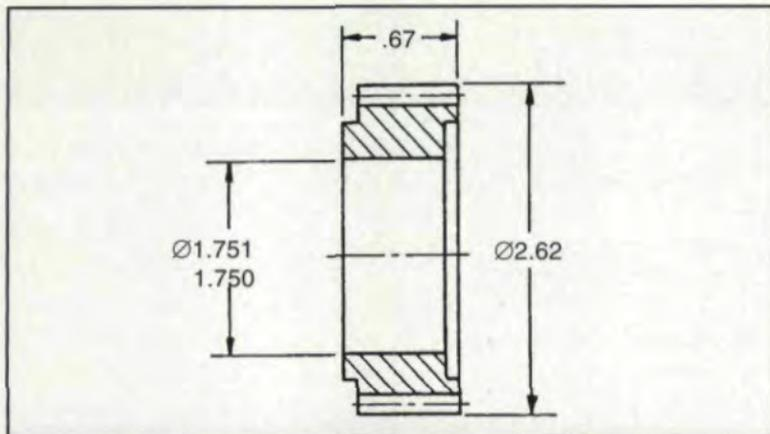

Fig. 2 - Planet gear made from barstock.
*Example 1.* A small planet gear which, because of the small outside diameter and the uniformity in section, is made most economically from barstock (Fig. 2).